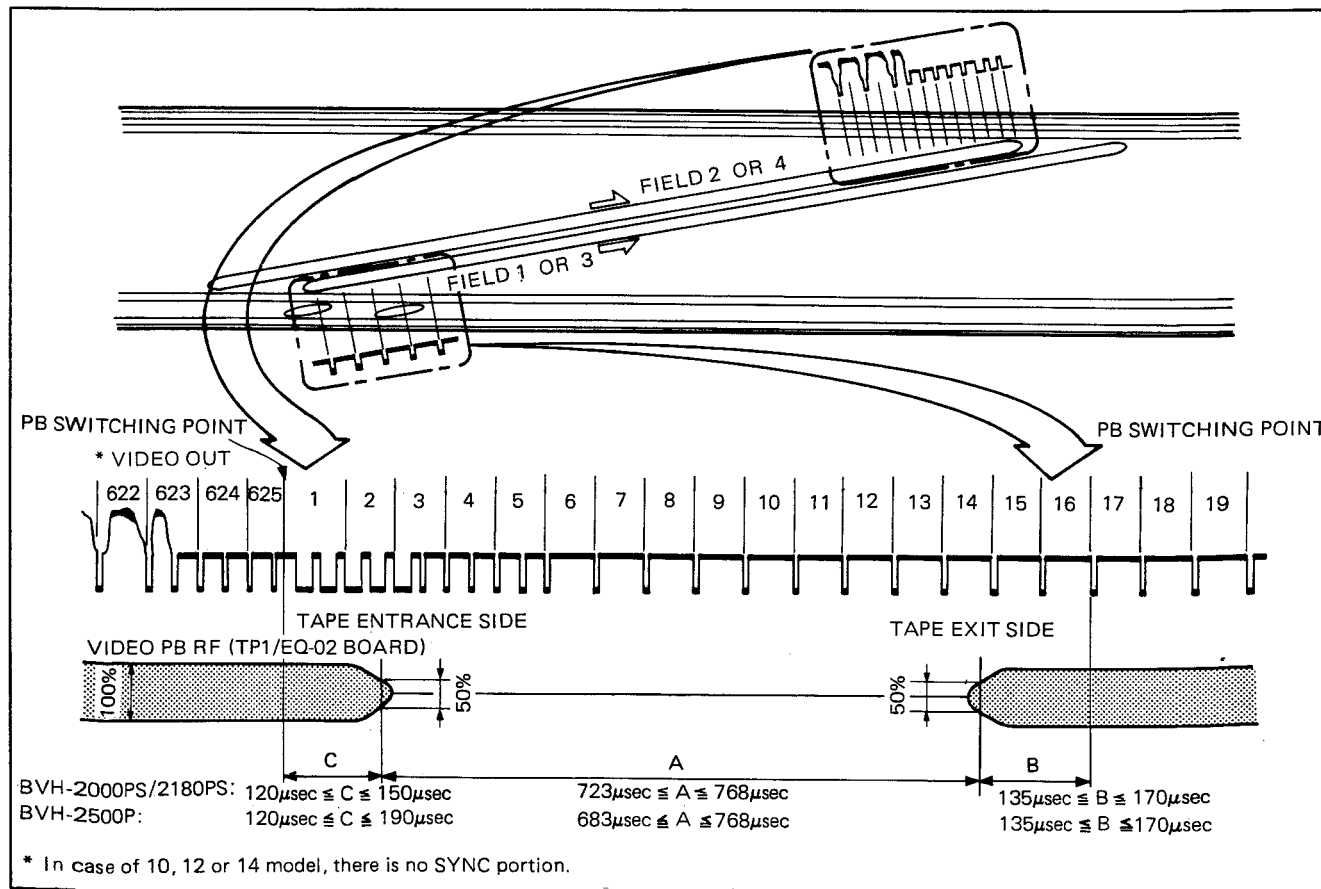

Fig. 3-84. Overlap Adjustment
5. Play back the recorded segment and check that overlap B and C is within the range shown in Fig. 3-84.